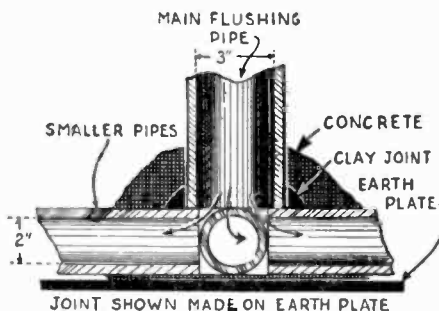

Fig. 3. Showing how the five pipes are joined to prevent leakage.
The size of the resistance is dependent upon the battery to be charged. If an "A" battery is used, an electric-iron plug is screwed into the socket (S), Fig. 3. If none is handy, then the following idea may be of interest, also because of its economy. Extract a single fuse from the box in the cellar, and insert a plug from a light cord whose other end terminates in a plug screwed into the socket (S). Now, by going upstairs and switching on a half-dozen lights or so in the house, you can, besides charging your battery in the cellar, also peruse leisurely the evening paper in the parlor, on the same electric bill.
Constructional details and wiring diagram of the "A-and-B"-battery charger. The rectifier is of the electrolytic type, employing aluminum and lead plates. The amount of current delivered is dependent on the size of the lamp, or other form of resistance inserted into the socket S shown in Fig. 3. R in Fig. 4 represents the resistance placed in series with the circuit to control the current flow. This corresponds to S in Fig. 3.
Care must be taken to get a really sound joint between the upright main pipe and the four smaller ones. (See Fig. 3). The